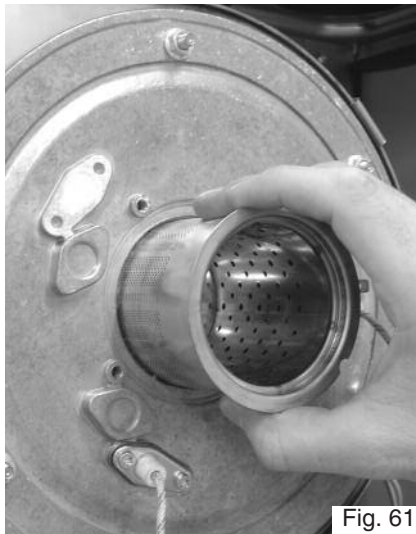

Fig. 61
3. Slide the burner out from the front, taking care not to damage the insulation (Fig. 61);